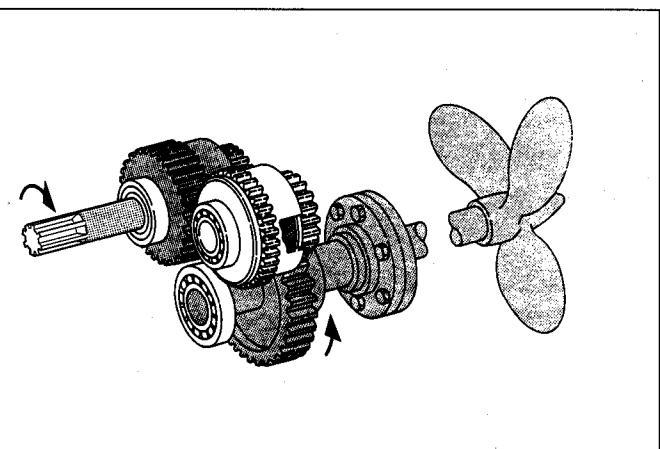

Fig. 1
La trasmissione avviene con rapporto indicato sulla targhetta d'identificazione (Fig. 1).
- **Forward:** the forward clutch is engaged from the selector valve when it is placed in the forward position. Thus the engaged clutch pack connects the input to the output shaft. The transmission ratio of the gearbox is reported on the gearbox identification plate (Fig. 1).